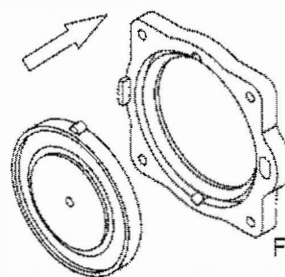
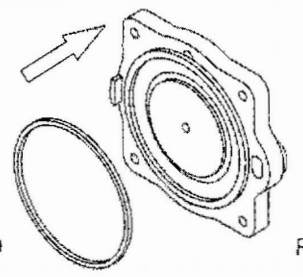

Fig.9
Fig.10
⑥Insert new diaphragm onto the diaphragm mounting block to fit convex part (refer to fig.9) and attach the new diaphragm ring(refer to fig.10).